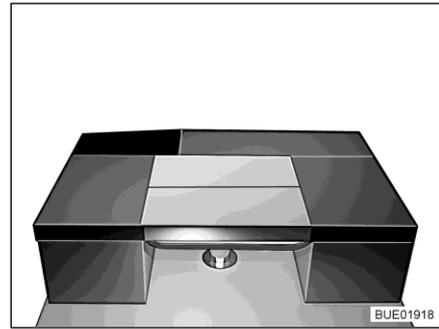

Fig. 169 After conversion
- Place the back cushion of the bench horizontally onto the table (see Fig. 169).